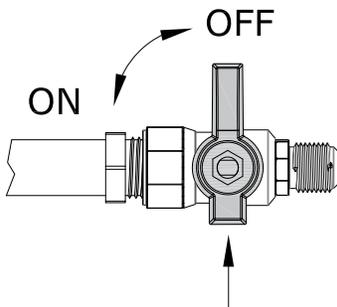

Figure 4.13 - Turn Off Gas
1. Disconnect the electrical power of the fireplace. Locate the main shut-off valve upstream of the appliance connector and close the valve. Figure 4.13.